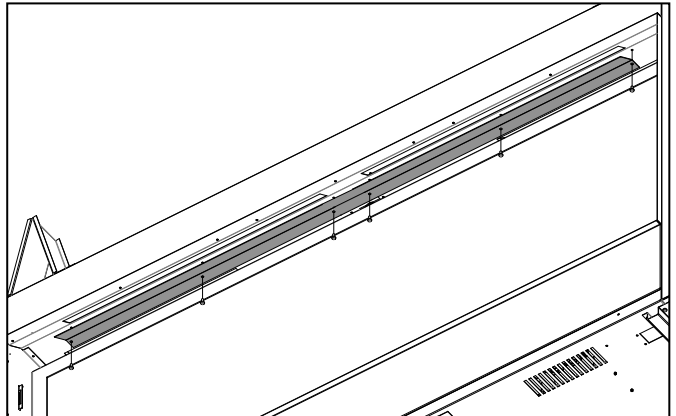

Figure 21 CSS cover removal
3. There is a CSS cover on the inner top of the cabinet that must be removed. It is attached using #8 T20 screw. Remove these screws and remove the cover (see Figure 21).